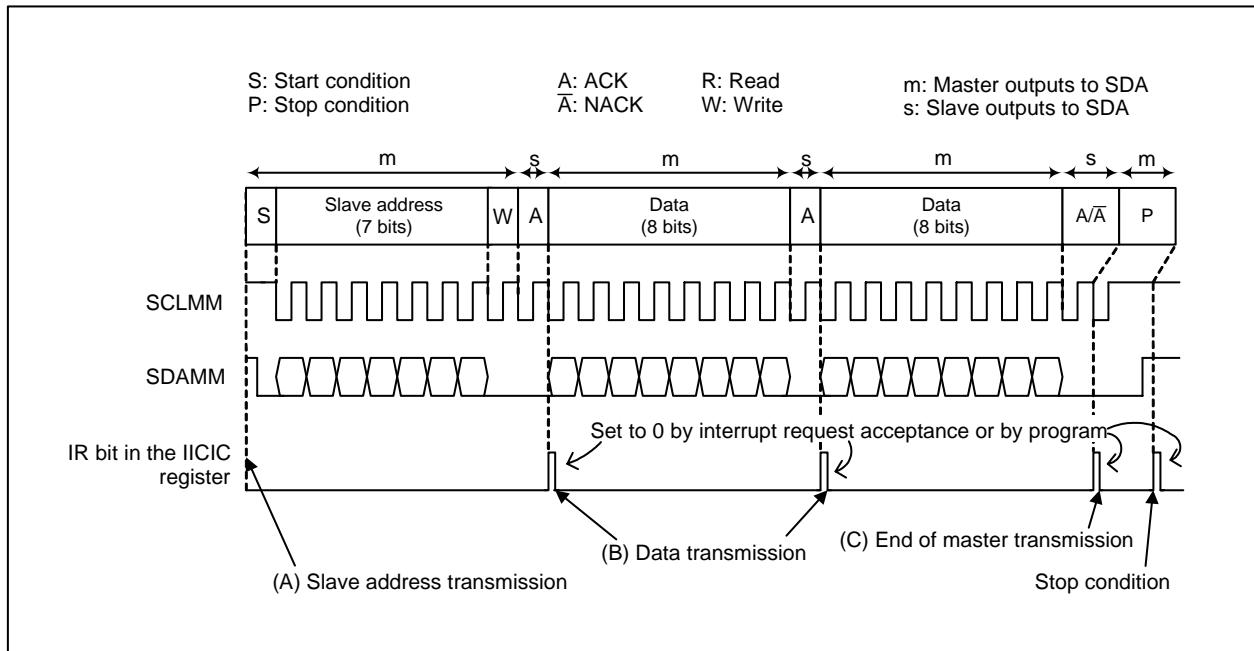

Figure 21.17 Example of Master Transmission
Master transmission is described in this section. The initial settings described in 21.3.10.1 "Initial Settings" are assumed to be completed. Figure 21.17 shows the operation of master transmission. The following programs (A) to (C) are executed at the (A) to (C) in Figure 21.17, respectively.